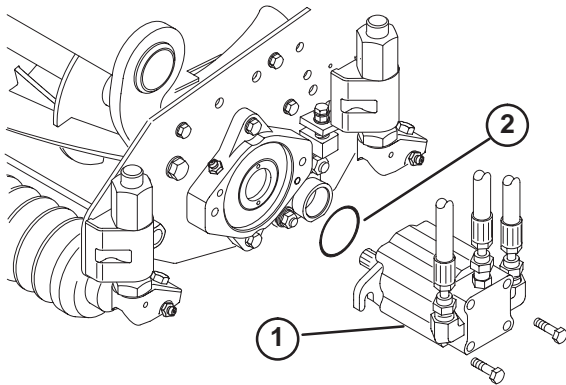

Figure 10
14. Mount the motor to the drive end of the cutting unit and secure with two capscrews provided (Fig. 10).